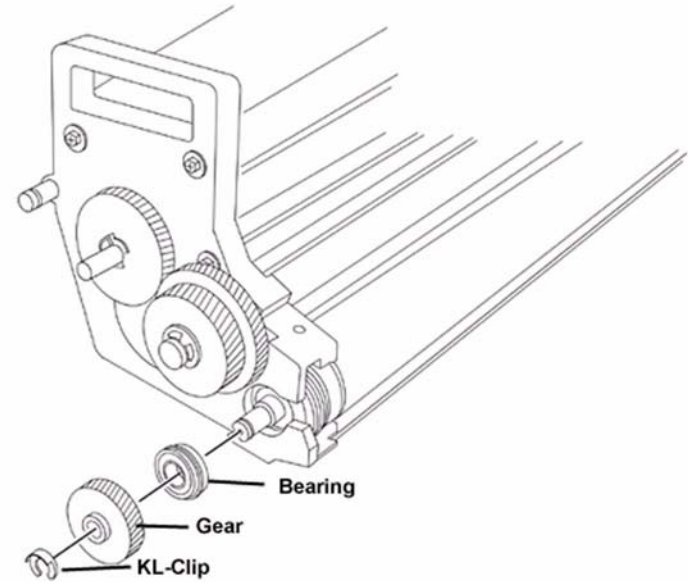

Figure 2 Removing the components from the right end of the Developer Housing Assy
7. Remove the KL-Clip, the Magnet Roll Gear and the Ball Bearing from the right end of the Developer Housing Assembly (Figure 2).